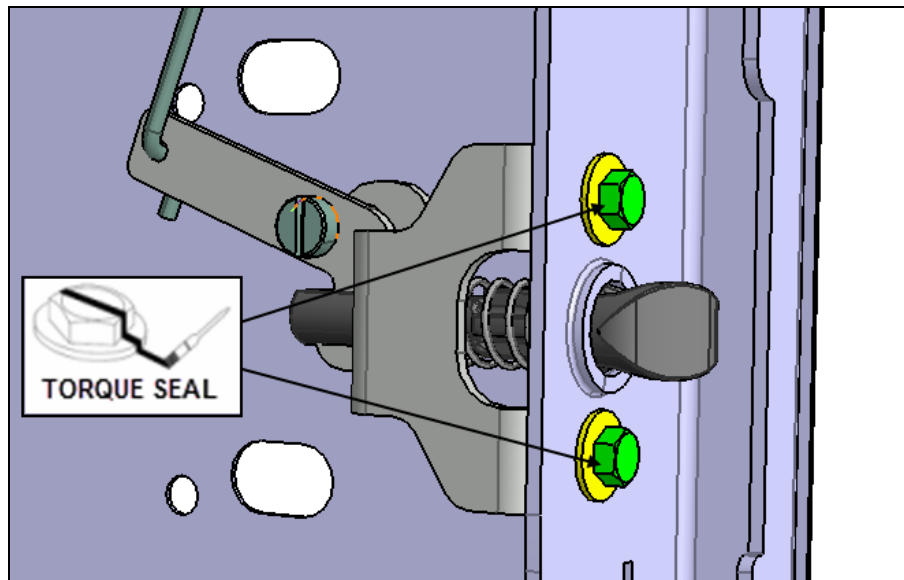

FIG.27 TORQUE SEAL APPLICATION TO SCREW HEADS
25. Check for proper door latch operation (open and close door several times). Once completed, apply tamper proof indicator paint (torque seal) to the bolt heads (Fig.27).